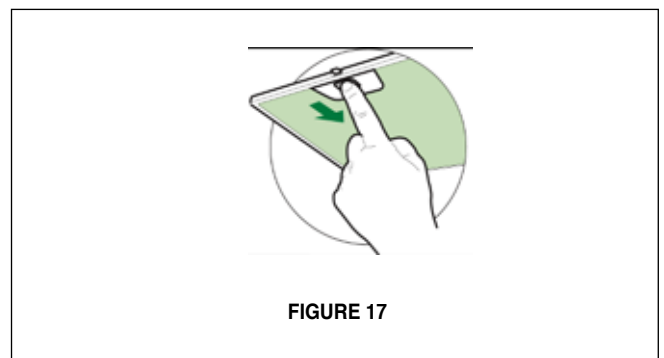

FIGURE 17
6. Remove the grease filters from the unit and set aside. The grease filters are installed by pressing the handle in front of the filter (FIGURE 17). When replacing, make sure that the filters are properly positioned with the handles in front and visible.